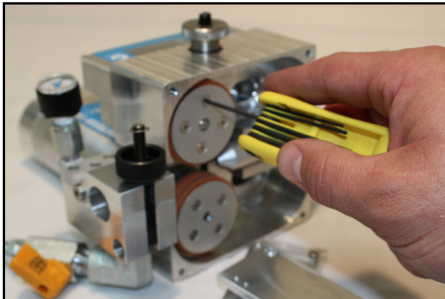

Figure 24. Remove the 4 Screws on the Side Plate of the Rollers
- b. Remove the 4 screws on the side plate of the Roller (Figure 24).
- e. Install and tighten the 4 screws on the side plate of the Rollers (Figure 24).